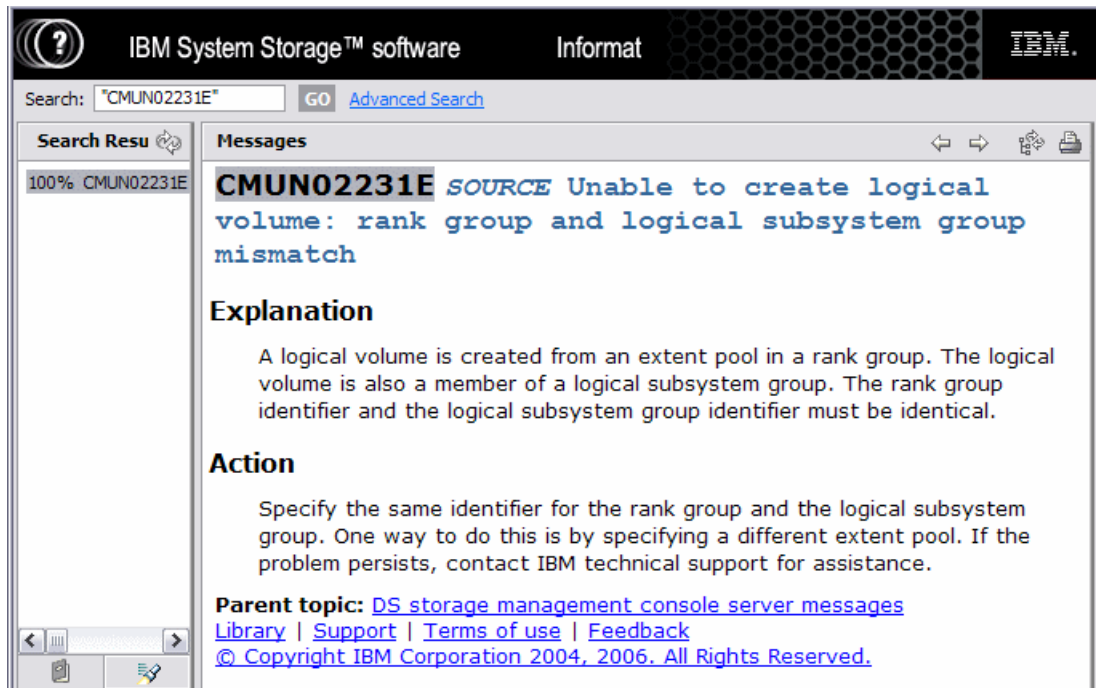

Figure 19-2 Looking up a DS CLI error message using DS6000 Information Center
- *Error* messages are identified by the letter “E” at the end of the message identifier. They indicate that an error has occurred. Refer to the explanations and recommended actions in the DS6000 Information Center to resolve the problem (see Figure 19-2). An example of an error message code is CMUN02231E (see Example 19-1).
Messages that are shown in the DS CLI provide a message ID and a short description, as shown in Example 19-1. Although the short description in many cases already provides enough information about the nature of a potential problem, it might be convenient in some other cases to obtain a more detailed description with an explanation and a proposed action plan to resolve the problem. This can easily be achieved by using the DS6000 Information Center and performing a search on the given message code. Just enter the message ID into the Search field of the DS6000 Information Center with quotation marks around it, select **Go**, and a detailed description of the message will be shown (see Figure 19-2).
In Example 19-1, an attempt is made to create a new volume with volume ID 1142 from Extent Pool P0. This task fails because the logical subsystem group of the volume (here LSS 11 belongs to logical subsystem group 1 containing all odd numbered LSS IDs) and the rank group of the Extent Pool (here P0 belongs to rank group 0 containing all even numbered Extent Pool IDs) do not match. An error message with message code ID CMUN02231E and a short description is returned. To obtain more information about this error message and a proposal on how to resolve the problem, just enter the message ID into the Search field of the DS6000 Information Center and select **Go**, as shown in Figure 19-2.